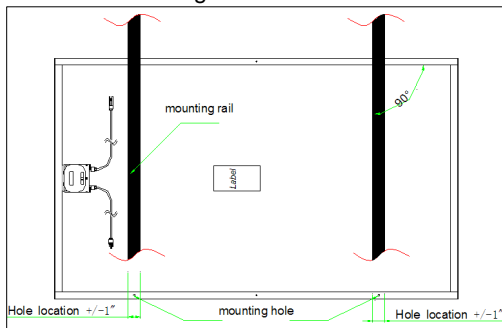

Figure 1: Mounting Hole Location and Example of Rail Mount
- A supporting structure can be used to mount the modules at various tilt angles. See Figure 1 for recommend configuration. Ensure no dissimilar combinations of metals be used that when damp or wet could result in degradation of the materials and as a result create conditions that prevent the module from meeting installation requirements and instructions set forth in this manual.
- It is recommended that the mounting rails must be within 1 in (2.54 cm) of the frame mounting holes (Figure 1) and run perpendicular to the length of the module.